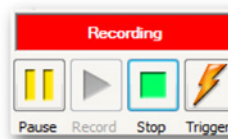
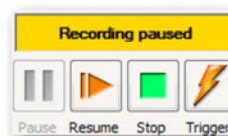

Figure A.3: Acquisition control - Record selected
Figure A.4: Acquisition control - no data in memory or disk
- When an acquisition is active, the button will update to **Pause** once **Record** is selected (see Figure A.3). Using the control now it will place the recorder in a hold mode: although the recorder is digitizing, no data is stored in memory or disk. At this point the **Record** button will change into **Resume** (see Figure A.4), when **Resume** is selected, the current recording continues, when **Stop** is selected, the recording is finished.